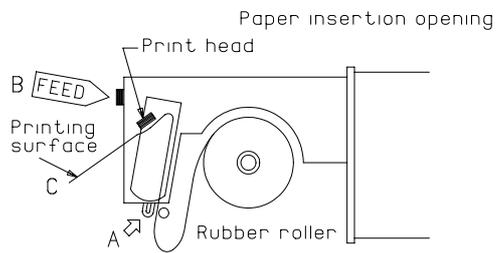

Figure 2
- 5.2.3 Gently push the paper face down into insertion opening (A) in Figure 2. Keep pressing the feed switch (B) until the paper comes out from the print head (C).